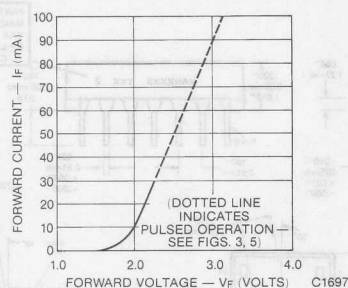

Fig. 1. Forward Current vs. Forward Voltage
2. The curves in Figures 1, 2, 3, and 4 are normalized to the brightness at 25°C to indicate the relative luminous intensity over the operating temperature range.